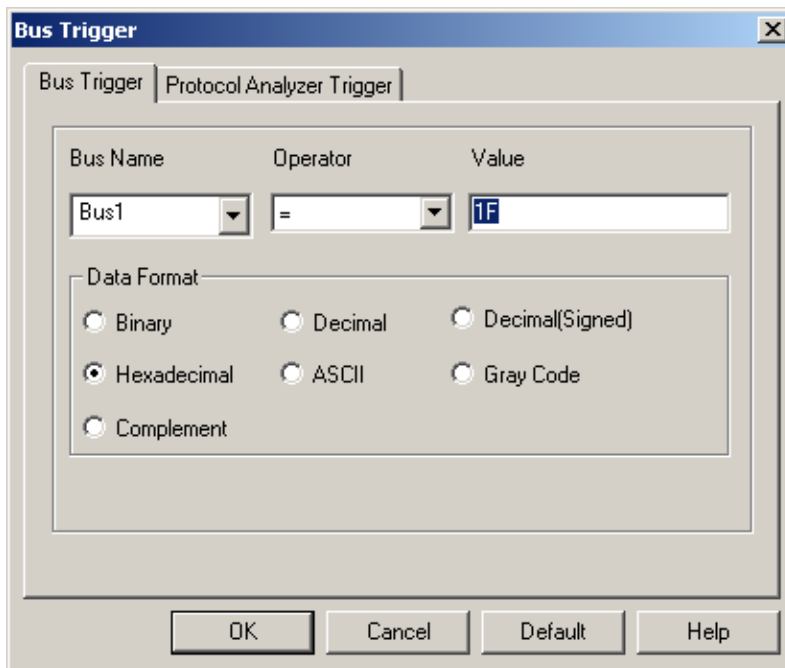

Fig 4-30 – Bus Trigger Setup
1. Highlight the Bus which will be triggered then click  icon or select **Bus Trigger Setup** from the Trigger of the Menu Bar, the dialog box as shown in Fig 4-30 will appear.
2. Set Binary, Hexadecimal, Decimal, Decimal (signed), ASCII, Gray Code or Complement as the Data Format of the Bus to represent the value (see Fig 4-30).